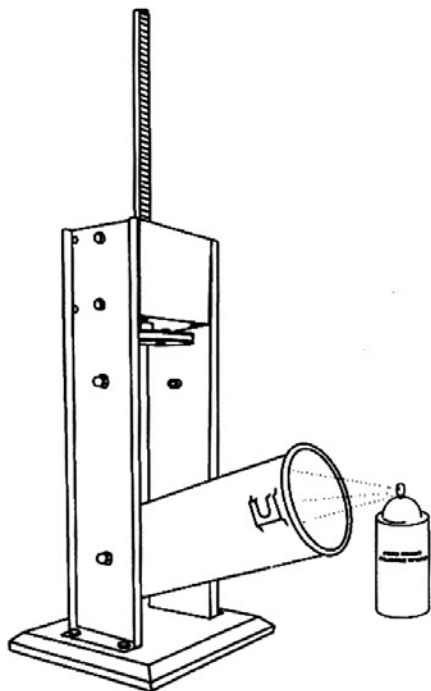

Fig. 7
- Apply a food-grade lubricant to the inside of the canister before filling with the meat mixture (Fig. 7).